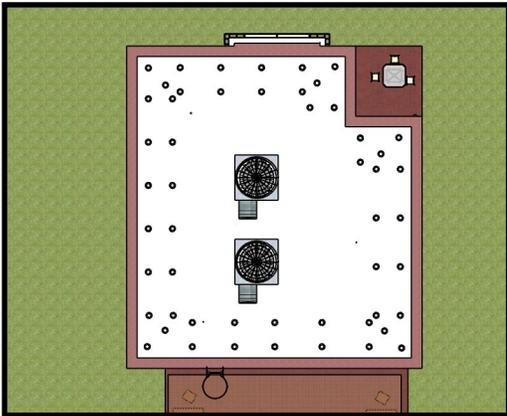

Fig 1 Post Layout
3. Once arriving on site, check the Stand-off layout for accuracy to the drawings that were provided. (see fig 1)